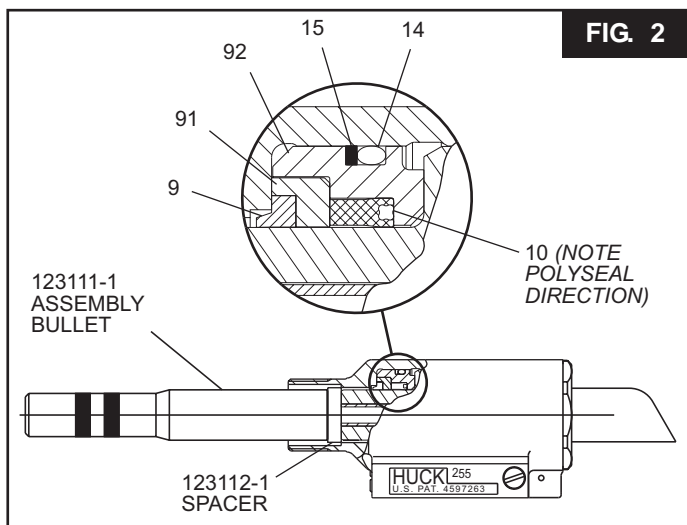

FIG. 2
NOTE: This will push out front and rear gland assemblies and wiper and wiper housing. (Fig. 2)
14. Thread Assembly Bullet (123111-1) onto Pull Piston (11) and push entire assembly into head. (Fig. 2)
15. Push Front Gland (97) with O-ring (14), Back-up Ring (15), Polyseal (10), Wiper Housing (91) and Wiper Seal (9) in place onto Pull Piston (11). (Fig. 2)